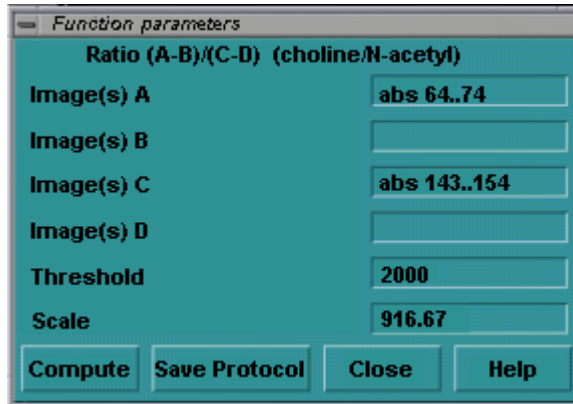

Figure 20: Function parameters window for the Ratio (choline/N-acetyl) protocol.
If you select one of the Ratio (A-B)/(C-D) map protocols from the **[Get Protocol]** menu, a more complex window (Figure 20), is displayed. For the
The Function parameters window for the Ratio (A-B)/(C-D) (choline/N-acetyl) protocol displayed in Figure 20 is the basis for all of the spectroscopy Function parameters windows. The Average (choline) example in Figure 19 is a simplified version of the ratio window.
- ⇒ The first four fields, labeled **Image(s) A**, **Image(s) B**, **Image(s) C**, and **Image(s) D**, specify an image or a range of images used in the protocol calculations. The values returned by the pre-defined protocols are the scaled values of A, or A/C. It is possible to return the values of A, A – B, A/C, (A – B)/C, or (A – B)/(C – D), depending on which input parameter fields are left empty. For example, to return the simple ratio A/C, the B and D input parameter fields are left empty as shown in Figure 20. Clearly the Image(s) A input parameter field can not be empty.
The choline, creatine, and N-acetyl regions are used to define the input parameter entries for the choline/creatine, and the choline/N-acetyl ratio maps. Using the Function parameters window for the choline/N-acetyl Ratio map in Figure 20 as an example, the absolute values of the signal intensities for the chemical shift images 64 through 74 (**Image(s) A = abs 64..74**) are divided by the absolute values of the signal intensities of the chemical shift images 143 through 154 (**Image(s) C = abs 143..154**) using a threshold value of **2000**. The quotient is multiplied by the **1000** scale factor.